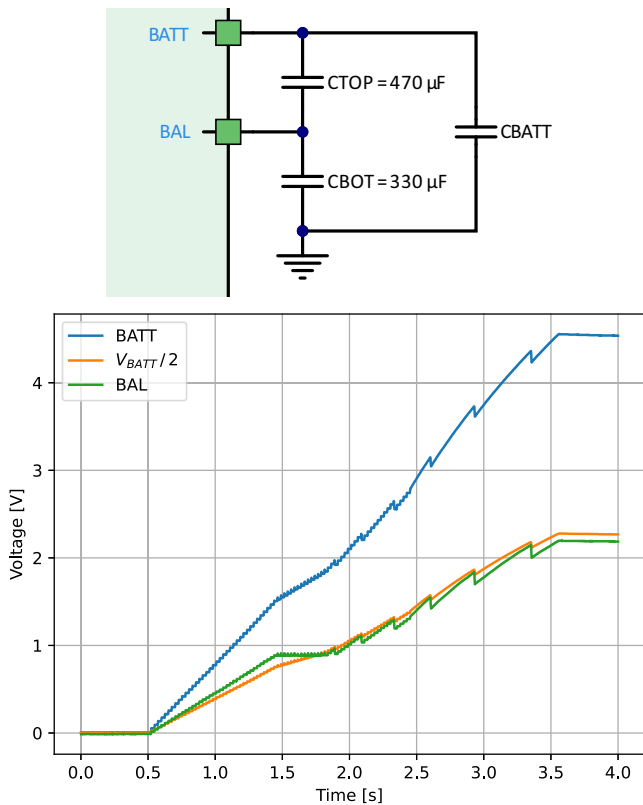
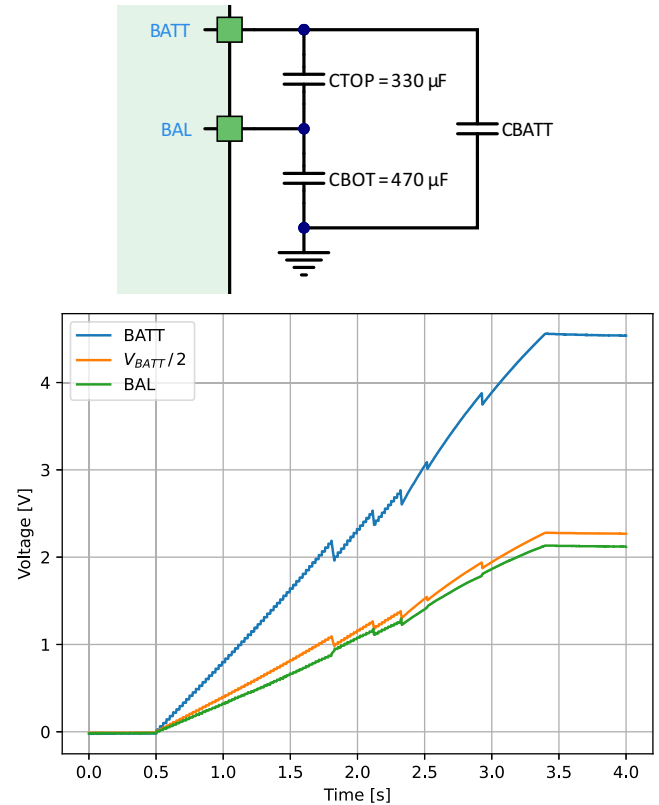

Figure 10: Balancing circuit schematic and behavior ($C_{TOP} > C_{BOT}$)
Figure 11: Balancing circuit schematic and behavior ($C_{BOT} > C_{TOP}$)
- SRC: connect the source element to power up the system. On Figure 9, Figure 10 and Figure 11, a PSU was used, set as a 1 V voltage source with a 100 Ω series resistor between the PSU positive terminal and the AEM20941 SRC pin.
- Figure 10: the capacitance of C_{BOT} is smaller than the one of C_{TOP} , so C_{BOT} charges faster than C_{TOP} . The balancing circuit starts to work when the voltage on **BAL** reaches $V_{BAL,MIN}$ (0.9 V). At 1.5 s, the balancing circuit starts and C_{BOT} is kept at $V_{BAL,MIN}$ until C_{TOP} is sufficiently charged for the **BAL** voltage to sit at half the **BATT** voltage. The balancing circuit then regularly discharges C_{BOT} to maintain the balancing of C_{BOT} and C_{TOP} . This creates small voltage drops on both **BATT** and **BAL**. **BAL** voltage is always kept close to half of **BATT** voltage.
- Figure 11: the capacitance of C_{TOP} is now smaller than the one of C_{BOT} , so that C_{TOP} charges faster than C_{BOT} . When the **BAL** pin reaches $V_{BAL,MIN}$ (0.9 V), C_{TOP} is discharged into C_{BOT} , reducing C_{TOP} voltage and thus maintaining the balance between C_{TOP} and C_{BOT} voltages. This happens then regularly, so that **BAL** voltage is always kept close to half of **BATT** voltage, keeping the voltage on both capacitors close as well.